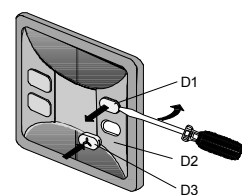

Figure 3: Inserting the pictograms
- For inserting the labels the cover (see illustration, figure3) of the labelling area must be removed from the push button.
Insertion: The four pairs of push buttons have a slot at the side for lifting out the perspex covers. Insert the selected pictogram in the cover and then press on the basic push button module. (See figure 3)